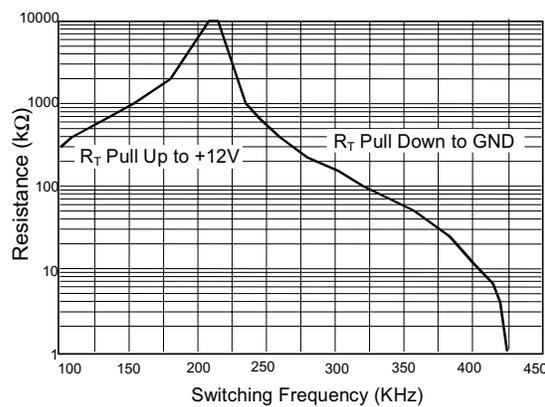

Fig. 3 R_T Resistance VS. Frequency
- Pin 10: RT: Frequency adjustment pin. Connecting a resistor (RT) from this pin to GND, increasing the frequency. Connecting a resistor (RT) from this pin to VCC, decreasing the frequency by the following figure (Fig.3).